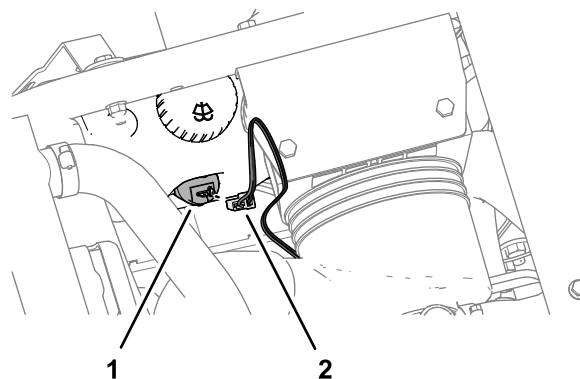
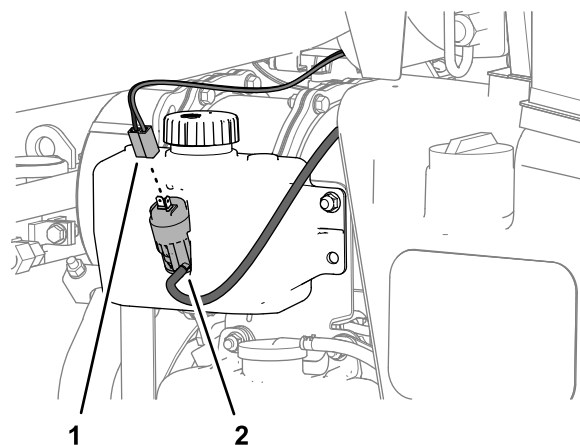

Figure 10
Figure 11
5. Route the power harness branch with a black wire, blue wire, and 2-socket connector to the pump of the washer-fluid tank (Figure 10 or Figure 11).